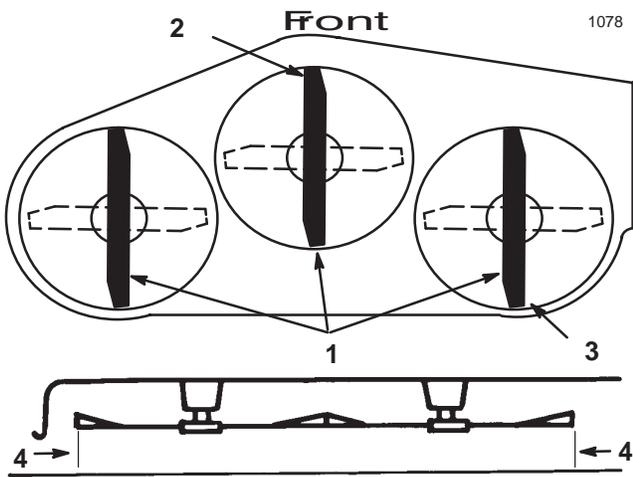

Figure 9
- Carefully rotate blades so they are facing front and rear (Fig. 9).
- Measure between the tip of the front blade (Fig. 9) and the tip of the rear blade to the flat surface. If the front blade tip is not 1/8–1/4 in. (4–7 mm) lower than the rear blade tip adjust rear adjustment link.